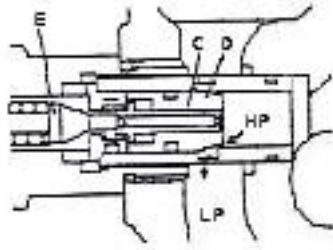

Figure 2-39
(2) Action of safety overflow valve (Figure 2-39)